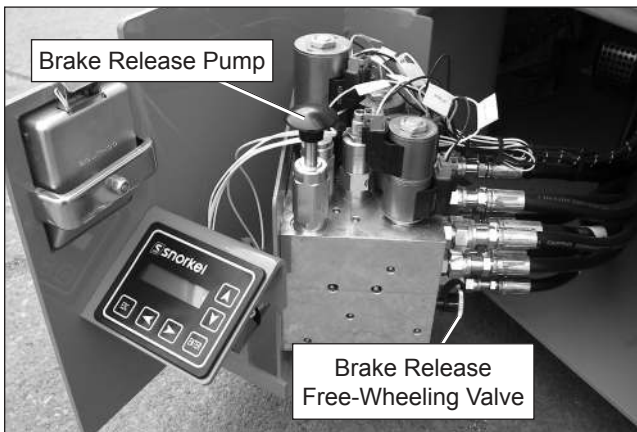

Figure 7 – Hydraulic Tray
1. Unlatch and swing out the control valve tray on the right side of the machine. The brake release/free-wheeling valve is located on the back of the hydraulic manifold (refer to Figure 7).